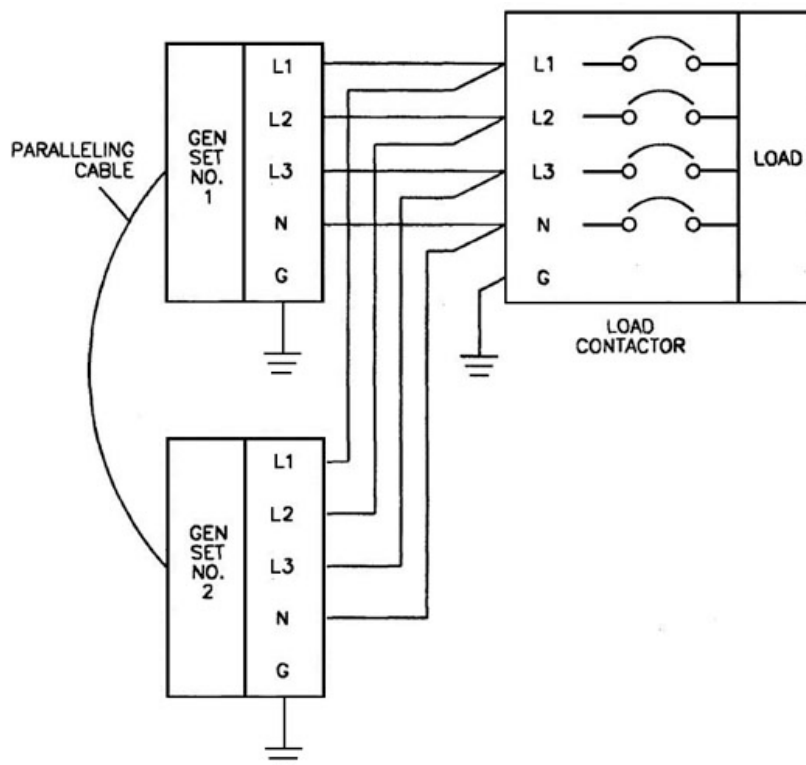

Figure 4-6. MEP 806B parallel load cables.
- Connect the load cables, see figure 4-6 for configuration.